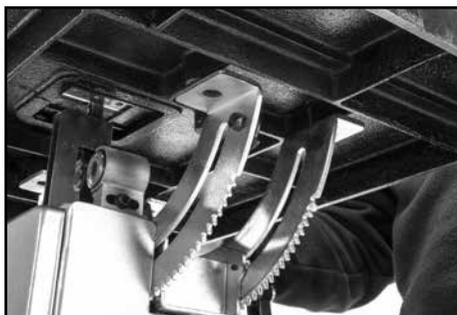

FIG. 2
8.2 LEVELLING THE TABLE – FIGS. 2 – 3